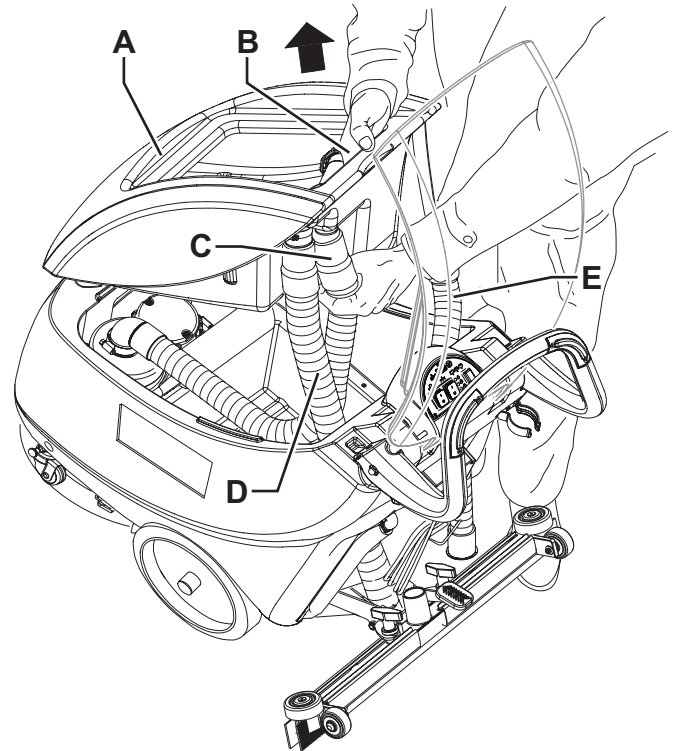

Figure 4
1. Empty the recovery tank (27) as shown in the relevant paragraph.
3. Make sure that the power supply cable plug (21) is disconnected from the electrical mains.
4. Disconnect the vacuum hose (22) from the squeegee (11).
5. Disconnect the recovery water drain hose (16) from the bracket (17).
6. Open the cover (6).
7. Grasp the recovery tank (A, Fig. 4) in the area (B) and slightly raise it.
8. Disconnect the vacuum hose (C) from the tank, then remove the tank (A) with the hoses (D) and (E).